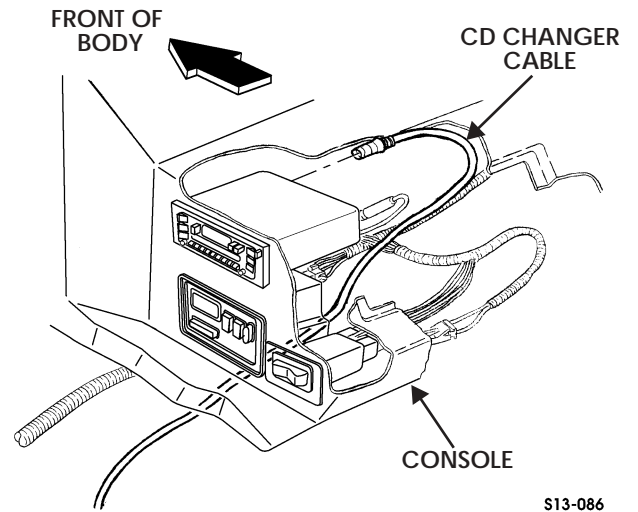

Figure 13-117: CD Changer Cable
8. Disconnect the CD changer cable from the radio/compact disc player in the instrument panel (Figure 13-117).
1. Connect the CD changer cable to the radio/compact disc player in the instrument panel (Figure 13-117).
7. Disconnect the CD changer cable from the radio/compact disc player in the instrument panel (Figure 13-117).